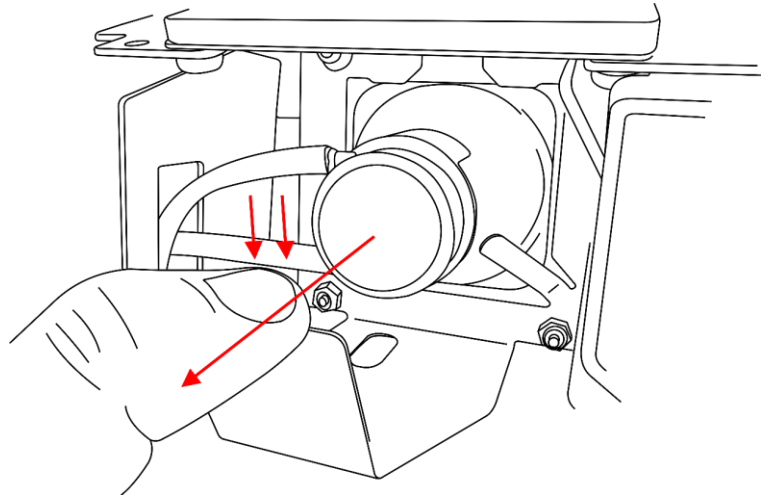

Fig. 04
- 02) Push on the lamp protection. Pull the lamp out of the housing (fig. 04).